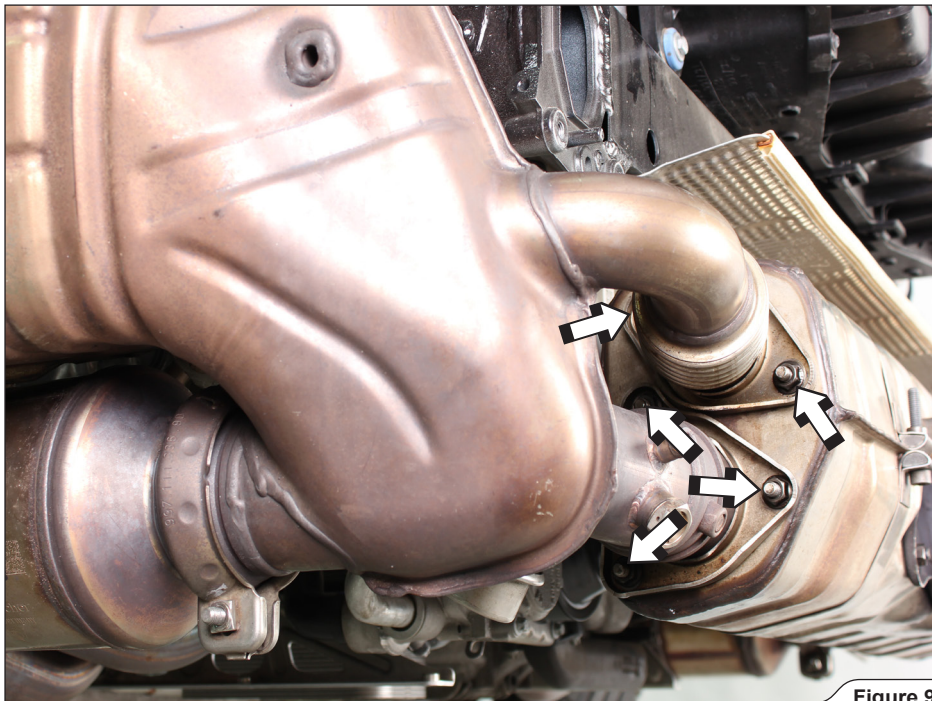

Figure 9
8. Unscrew the marked flange nuts, carefully pull the vacuum hoses off the vacuum actuators, loosen and remove marked connection clamps, unscrew side-muffler's bracket bolts and carefully remove both side mufflers off the vehicle (**Figure 9, 10**).